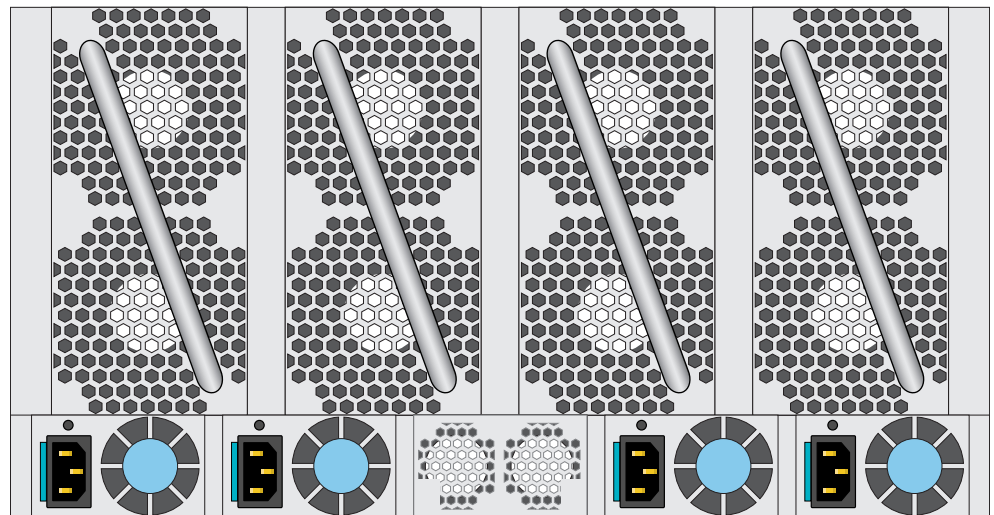

Figure 1-2 UV 300 Chassis Power Supply Cable Location Example
2. For each individual UV chassis that you want to power on, make sure that the power cables are plugged into all the chassis power supplies correctly, see the example in Figure 1-2. Setting the circuit breakers on the PDUs to the "On" position will apply power to the individual UV 300 chassis and will start the RMC node if it is plugged into the same PDU. Turn off the PDU breaker switch on the PDU(s) that supply voltage to the chassis or RMC power supplies if you want to remove all power from a particular unit.